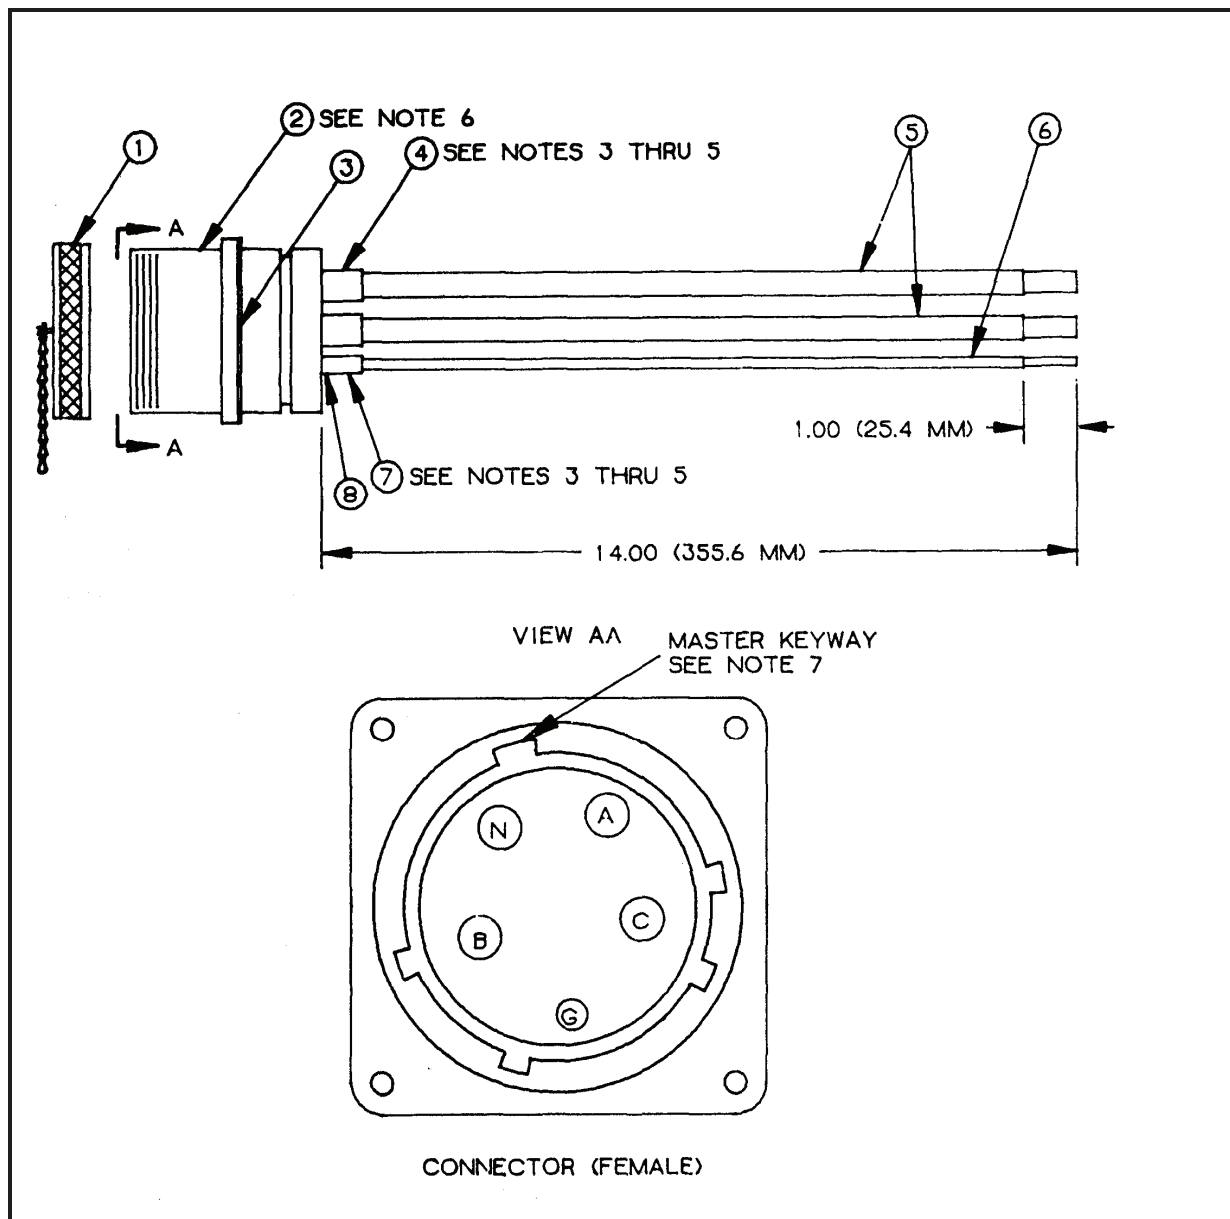

Figure F-9. Output Connector Assemblies, 40/60-Amp.
Component Legend for Figure F-9
c. Electrical connector (Figure F-9, Item 2) is furnished with the following: